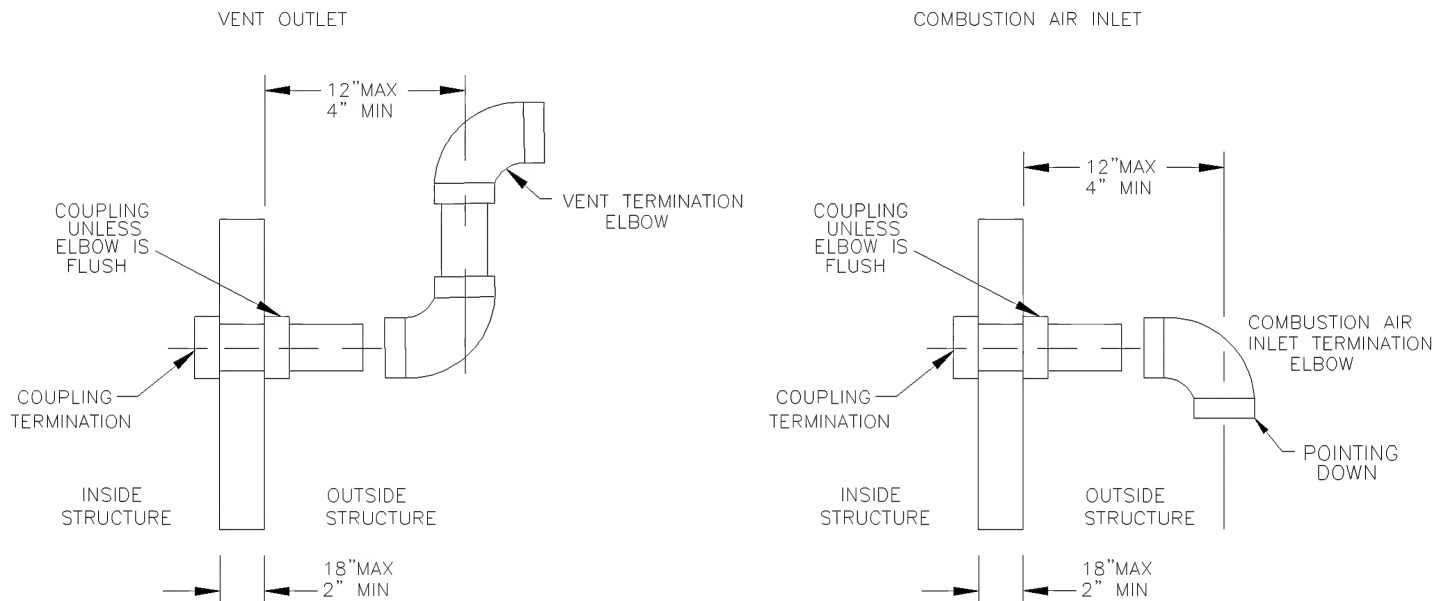

Figure 2
1. The maximum wall thickness through which the vent and combustion air pipes may pass is 18" and the minimum is 2". The maximum distance from the outer wall to the center of the elbow is 12" (See Figure 2).
2. The PVC vent termination elbow must be installed in accord with local codes and these instructions. The bottom edge of the vent termination elbow must be installed at least 12 in. above the outlet of the combustion air intake termination elbow and must be installed in the same atmospheric pressure zone (i.e. on the same wall). It is recommended that the horizontal distance between the inlet and flue termination be kept to a minimum when possible and not exceed 24 in. apart. The vent and air intake should utilize the same numbers of elbows and approximately the same length of straight pipe to reach the outside termination elbows. (See Figures 2 & 3).